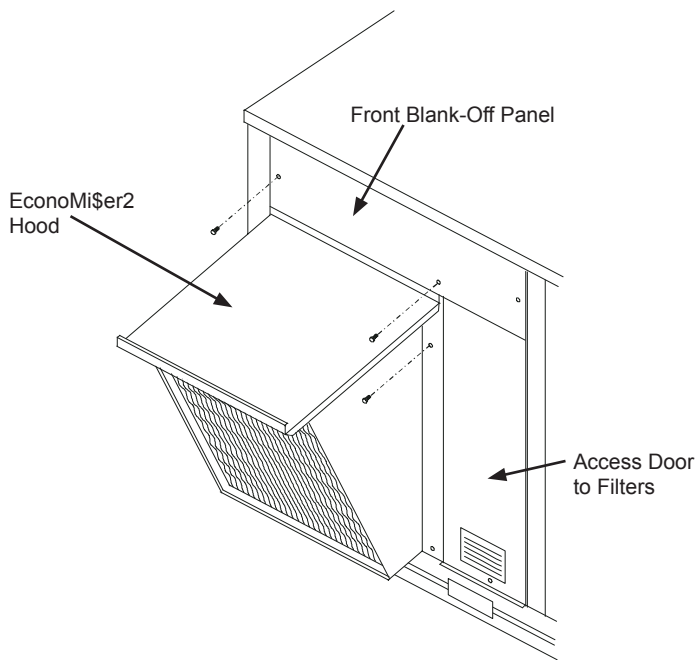

Fig. 10 - Front Blank-Off Panel Installation Panel
13. On some units the EconoMiSer and hood do not reach to the top of the unit. In this case a front blank-off panel must be installed. Install provided front blank-off panel above hood. Screw in place. (See Fig. 10.)